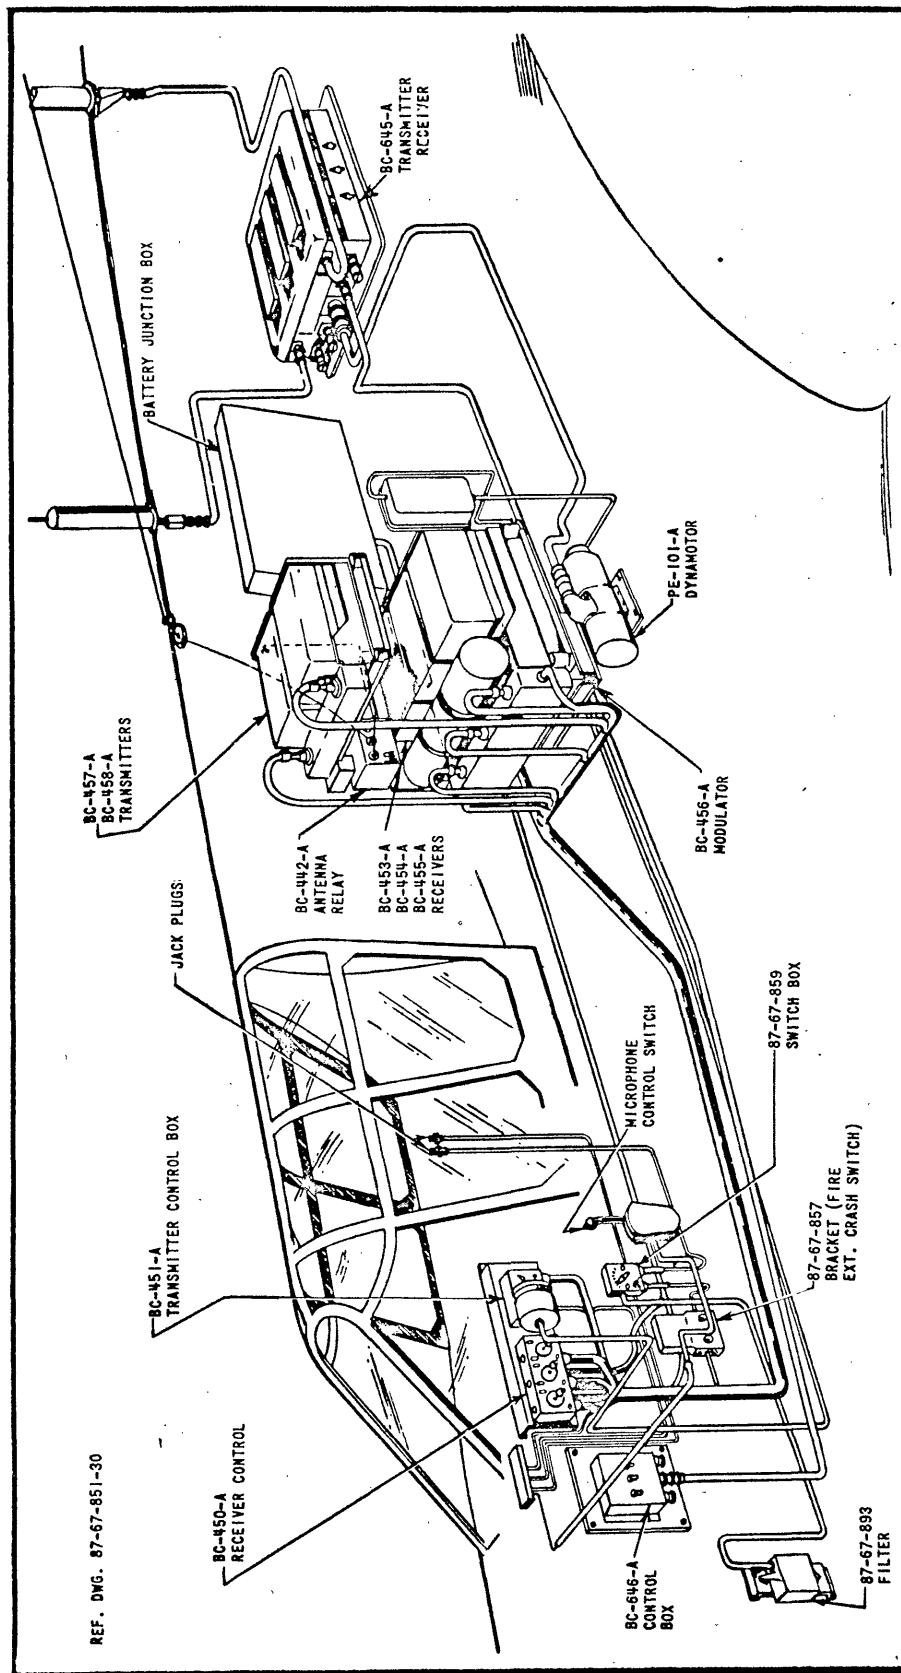

Figure 109 - Radio Diagram SCR 274-N and SCR 515-A
a. On the SCR-522-A installation, the control unit is located on the right side of the cockpit, directly forward of station 3. The BC-602-A electric controller unit is also on the right side of the cockpit, just aft of station 3. The microphone and head phones plug-in box is on the right side aft of station 4. A fire extinguisher crash switch is located below the electric controller unit. A BC-608 contactor is located on the upper left-hand side of the instrument panel. (See figure 109.)
g. To Install the SCR-274-N Radio. - This radio set consists basically of a group of three radio receivers, and two radio transmitters, each with its special rack and mounting. In addition there is a modulator unit, with a high-voltage dynamotor, an antenna relay unit, and separate radio control boxes for the group of receivers and transmitters. (See figure 109.)
(1) To Install the Receivers and Transmitters. Slide each unit into its proper rack compartment as far as it will go, slip the locking lugs, located on the rack under each unit, over the conical shaped studs on each unit. The knurled nuts, which hold these lugs in place, should now be hand-tightened, and then safety-wired, to insure good electrical and ground connections at all times. Always allow enough clearance around units so that under the maximum possible amplitude of vibration, the units will not strike anything. Allow plenty of slack in cords near the points of attachment to the units.
(2) It will be necessary to change receivers and transmitters occasionally, and to tune them up.
(3) To attach plugs, "feel" for the proper orientation before using any considerable pressure on the plugs. The locking rings should be hand-tightened.
(4) Safety-wire the snapslides which lock the several units to their mountings. Safety-wire the snapslides holding the tube covers on the transmitters and modulator unit. (This makes accidental access to the high-voltage plate leads of Tube VT-136 on the modulator more difficult.)
(5) Set each receiver radio control box dial to correspond with the dial of the receiver connected thereto. Each radio control box dial may be adjusted to a